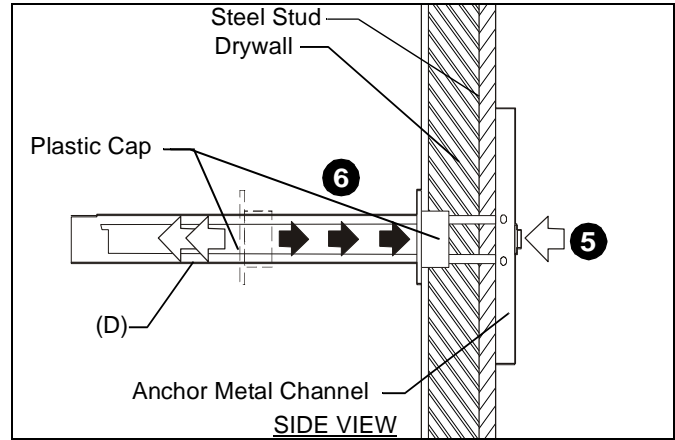

Figure 3
5. Holding plastic straps on anchor (D), pull anchor away from wall until channel rests flush behind wall making sure anchor channel is positioned vertically on stud. (See Figure 3)
6. Slide plastic cap on anchor (D) towards wall until flange of cap is flush with wall. (See Figure 3)